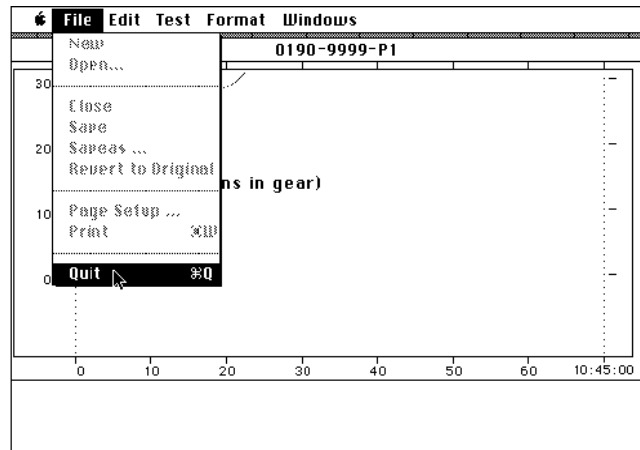

Figure 6
- 10.0 To quit the VDA program, position the mouse pointer on “File” (in menu bar) and press and hold down the mouse button, opening the “File” menu. Continue to hold down the mouse button, pull the mouse toward you, and position the pointer on “Quit”; then release the mouse button to select it. See Figure 6.